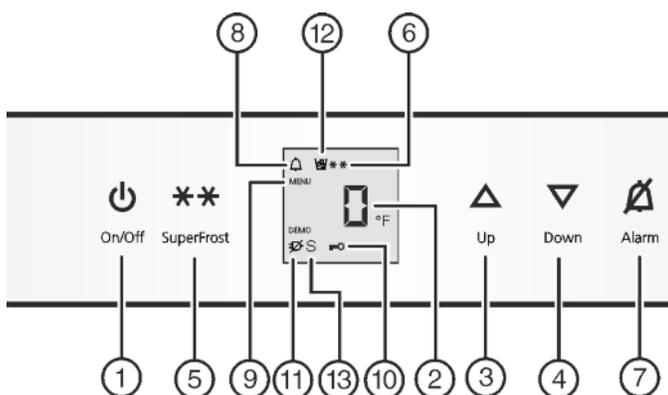

Fig. 2
- ▶ Press On/Off button *Fig. 2 (1)*.
- ▶ Activate setting mode: Press SuperFrost button *Fig. 2 (5)* for about 5 seconds.
- ▷ The Menu symbol *Fig. 2 (9)* lights up.
- ▶ Using Up button *Fig. 2 (3)*/ Down button *Fig. 2 (4)* select °.
- ▶ To confirm: Briefly press SuperFrost button *Fig. 2 (5)*.
- ▶ Using Up button *Fig. 2 (3)*/ Down button *Fig. 2 (4)* select °F or °C.
- ▶ To exit setting mode: Press On/Off button *Fig. 2 (1)*.
- ▶ Activate setting mode: press and hold the SuperFrost button *Fig. 2 (5)* for approximately 5 s.
- ▶ Using the Up button *Fig. 2 (3)* or Down button *Fig. 2 (4)*, select **c**.
- ▶ Press the SuperFrost button *Fig. 2 (5)* briefly to confirm. When **c1** is shown on the display:
- ▶ To switch on the child-proof lock, press the SuperFrost button *Fig. 2 (5)* briefly.
- ▷ The Child safety symbol *Fig. 2 (10)* lights up. **c** flashes on the display. When **c0** is shown on the display:
- ▶ To switch off the child-proof lock, press the SuperFrost button *Fig. 2 (5)* briefly.
- ▷ The Child safety symbol *Fig. 2 (10)* goes out. **c** flashes on the display.
- ▶ Deactivate setting mode: press the On/Off button *Fig. 2 (1)*.
- ▶ Press Alarm button *Fig. 2 (7)*.
At the same time, the Alarm symbol *Fig. 2 (8)* will flash.
The audible warning automatically ceases, the Alarm symbol *Fig. 2 (8)* goes out, and the temperature display stops flashing when the temperature is cold enough again.
▶ To activate setting mode: Press and hold the SuperFrost button *Fig. 2 (5)* for approx. 5 s.